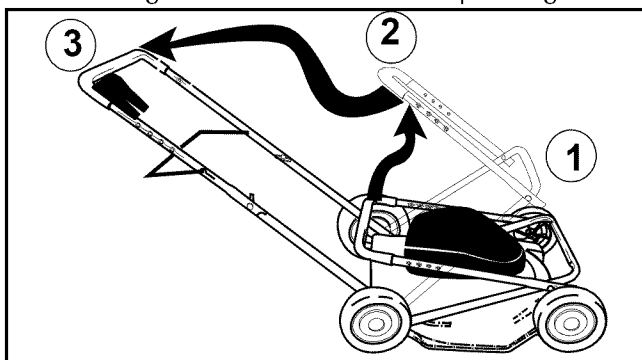

Figure 2
- Pull up and back on the upper handle to raise the handle into the operating position. Make certain the lower handle is seated securely into the handle mounting brackets. Refer to the steps in Figure 2.